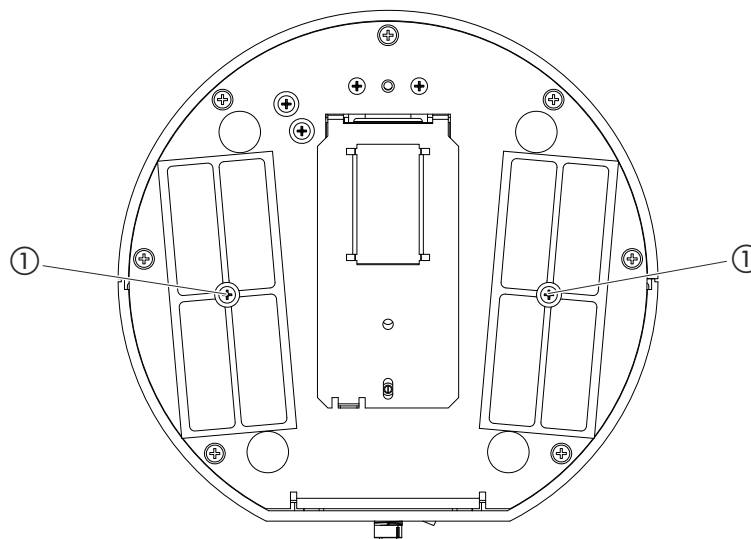

Fig. 15: View from below
- 3 Loosen both screws in the middle of the filter holder, see "Fig. 15: View from below", page 63.